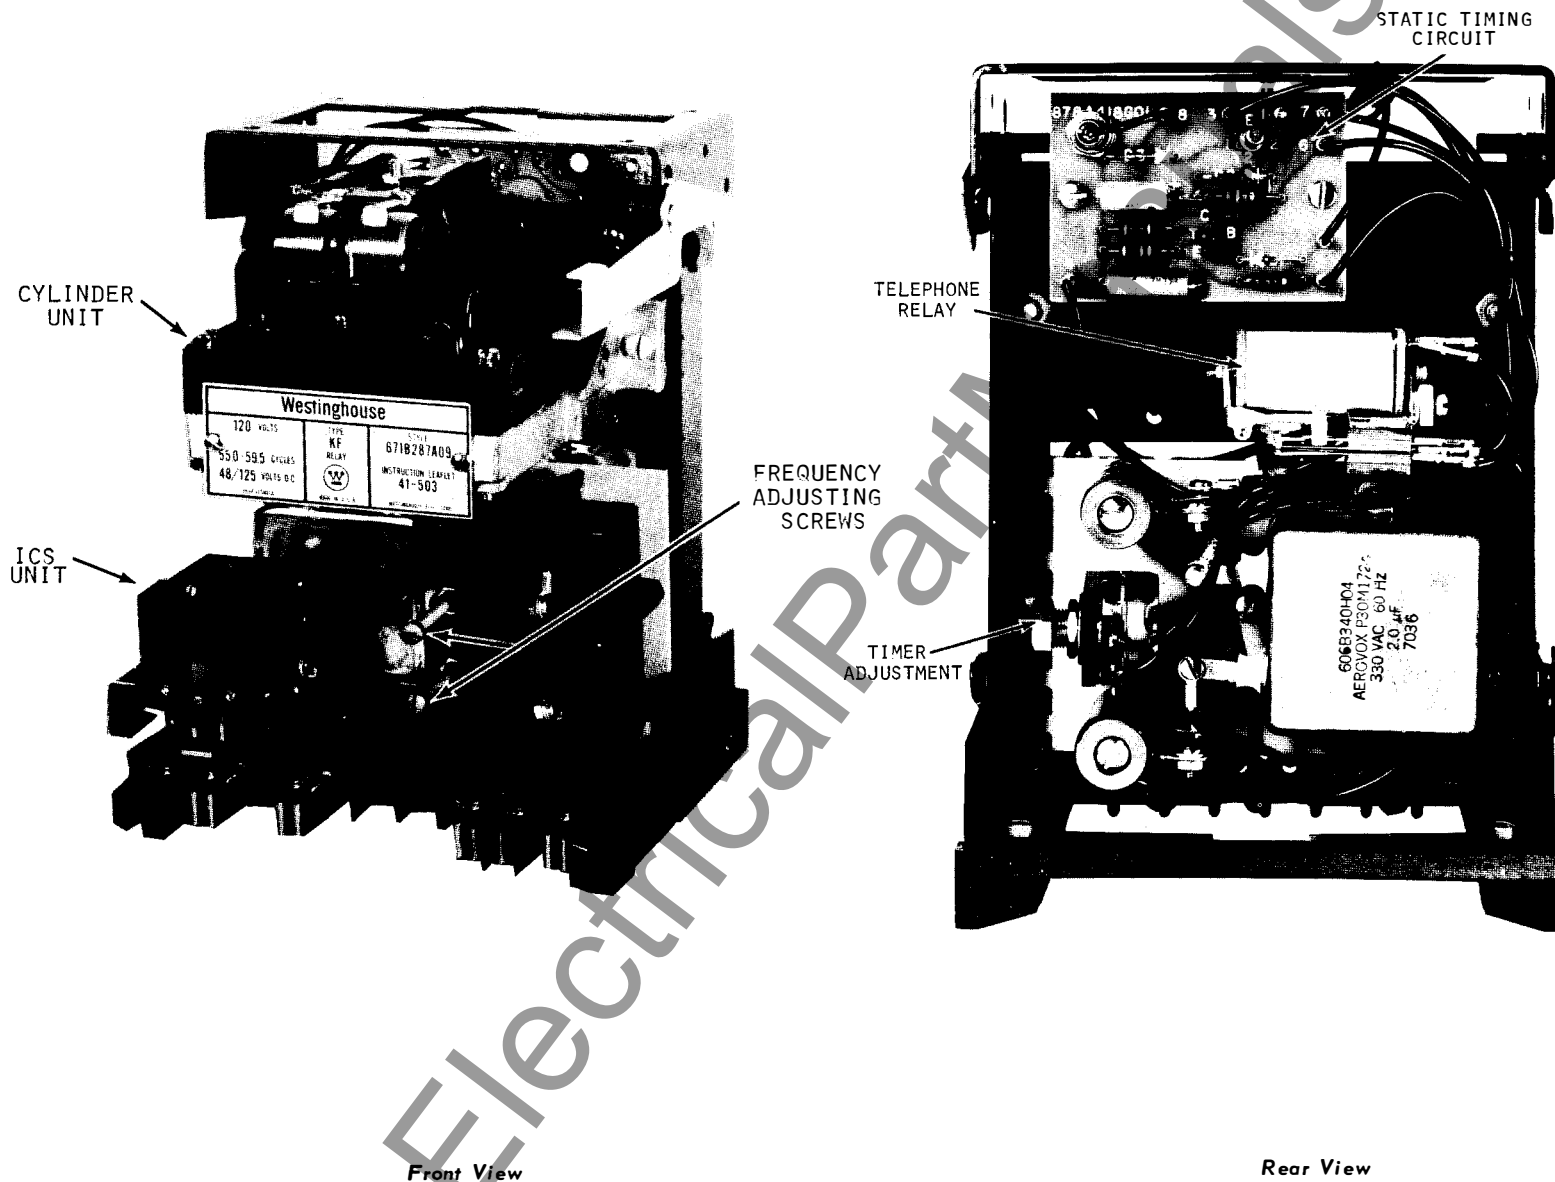

Fig. 1. Type KF Relay for 60 Cycles Without Case. (Front & Rear View)
The relay consists of an induction cylinder unit, frequency sensitive components, indicating contactor switch, and auxiliary time delay unit (T). The principal parts of the relay can be seen in Figure 1.
Block cylinder unit contacts closed. Apply 50 volts a.c. to terminals 8 and 9 of the KF relay. The T unit should operate. Reduce voltage to approximately 15 volts a.c. and the T unit should drop out. At rated voltage the time delay obtained should be 6 cycles. The timer can be set to provide up to 30 cycles delay by adjusting the rheostat located on the rear sub base. (See Figure 1). Time vs voltage curves are shown in Figure 9.
tacts. Closing the switch will now energize the timing circuit. The time delay obtained from the telephone relay should be 6 cycles. The timer can be set to provide up to 30 cycles delay by adjusting the rheostat located on the rear sub base. See Fig. 1.